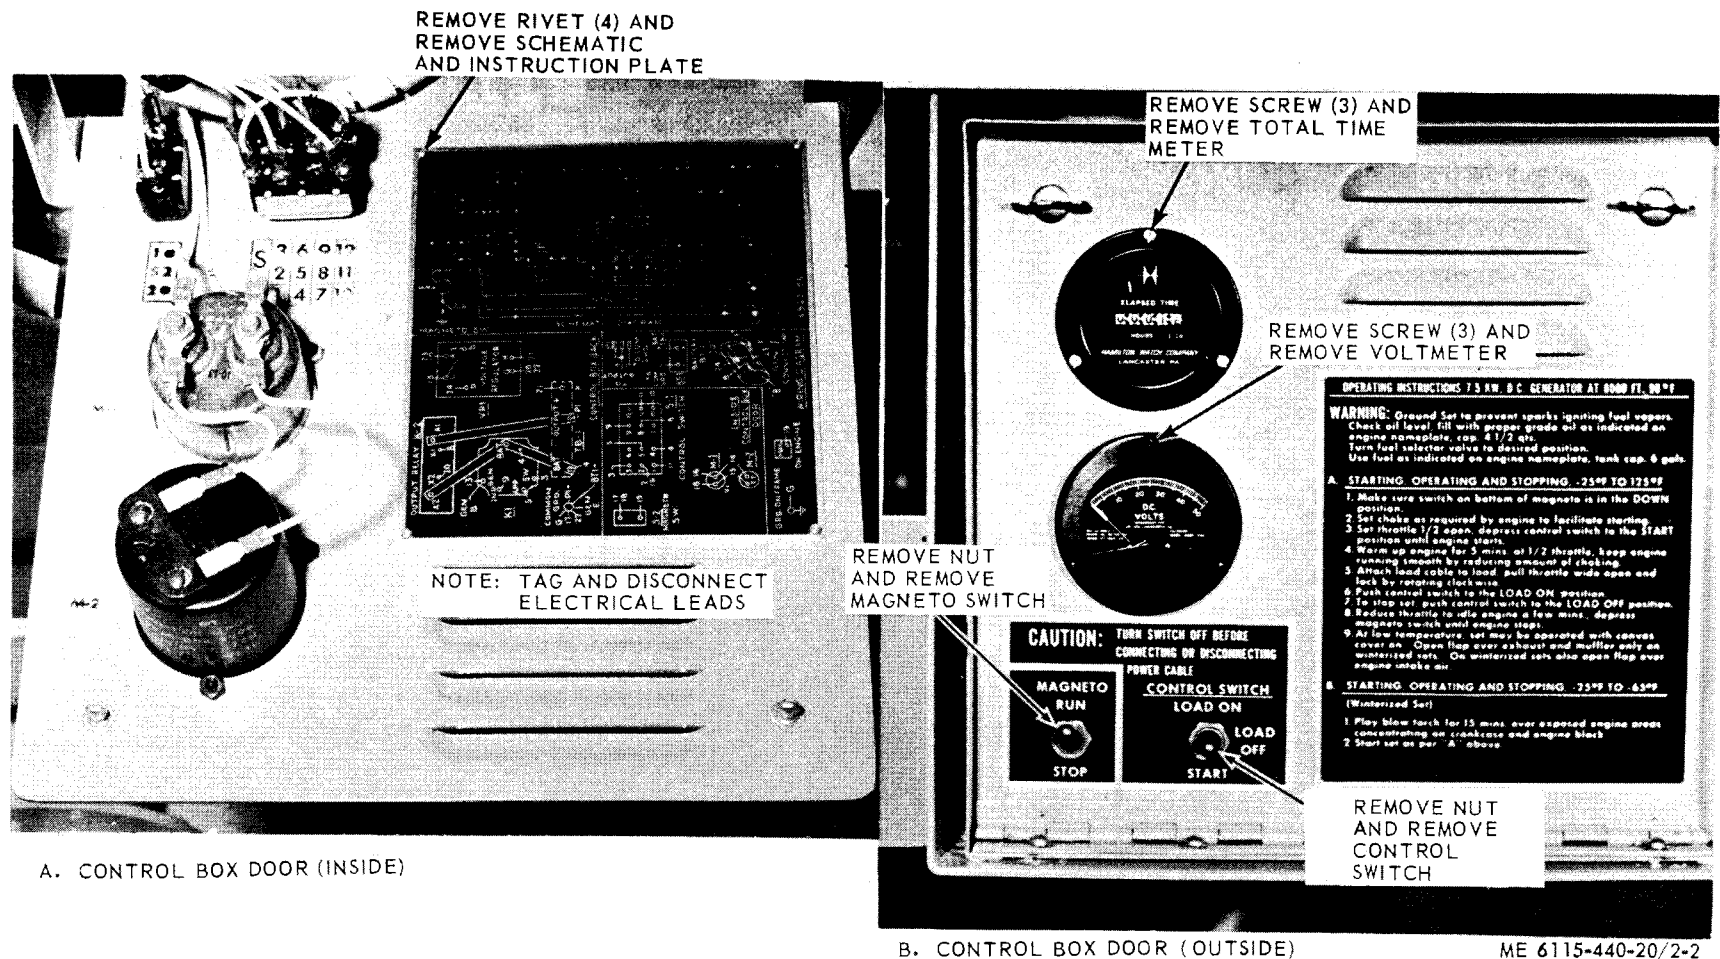

Figure 2-2. Instruments, switches and instruction plates, removal and installation.
a. Removal. Refer to figure 2-2 and remove the voltmeter and total time meter.
b. Installation. Refer to figure 2-2 and install the voltmeter and total time meter.
a. Removal. Refer to figure 2-2 and remove magneto switch and control switch.
b. Installation. Refer to figure 2-2 and install the magneto switch and control switch.
a. Removal. Refer to figure 2-2 and remove the instruction plates.
b. Installation. Refer to figure 2-2 and install the instruction plates.